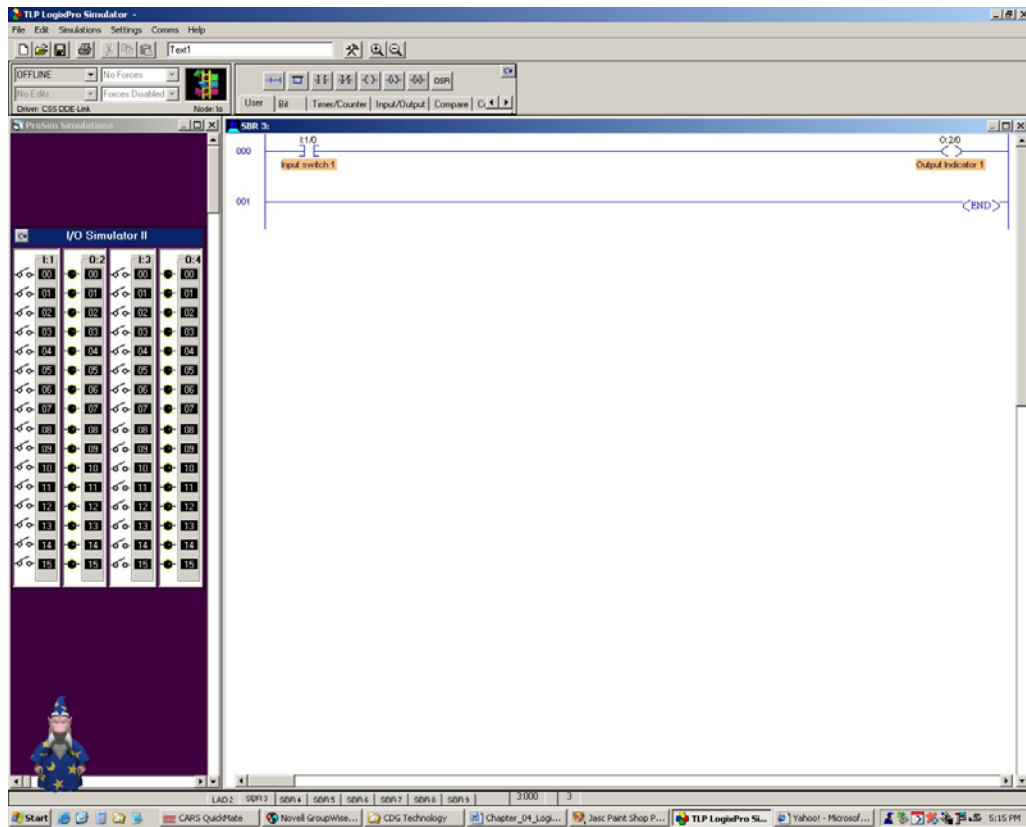

Figure 6
- When you are finished your screen it should look similar to the one shown in Figure 6.